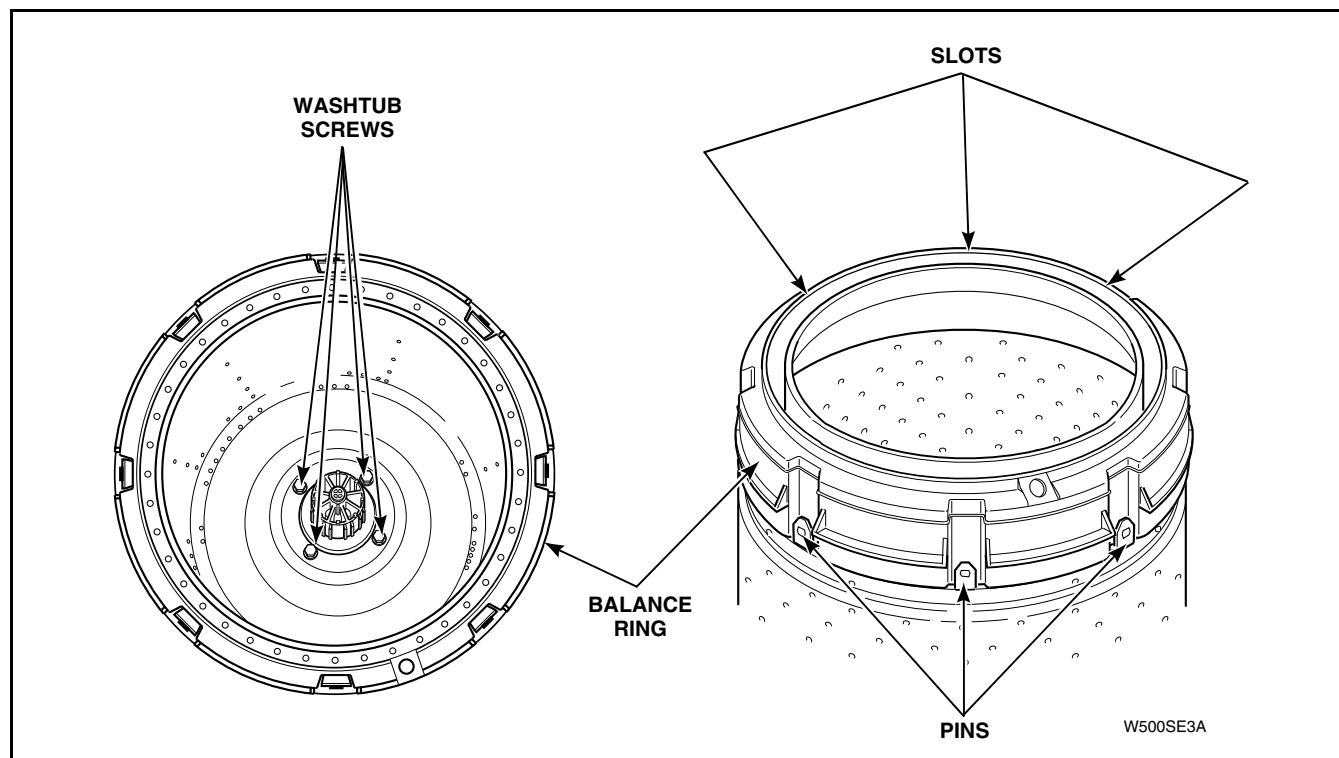

Figure 49
- Place blade of a small screwdriver into slots between balance ring and washtub. Refer to *Figure 49*.
- Carefully pry pins of balance ring out of holes in washtub. Refer to *Figure 49*.
- (6) With tub cover tilted at approximately 45 degree angle, insert the positioning pin into notch on outer tub flange.
- (7) Lower cover and push down firmly on top of hold-down tabs next to positioning pin until tabs snap over edge of outer tub flange.
- (8) Cross over to opposite side of tub cover and push down firmly on top of hold-down tabs until tabs snap over edge of outer tub flange. Continue with this criss-cross pattern, until tub cover is fully seated. Visually check each tab area again to ensure cover is seated.
- i. Remove screws holding washtub to hub. Refer to *Figure 49*. Then lift washtub (with balance ring attached) out of outer tub.